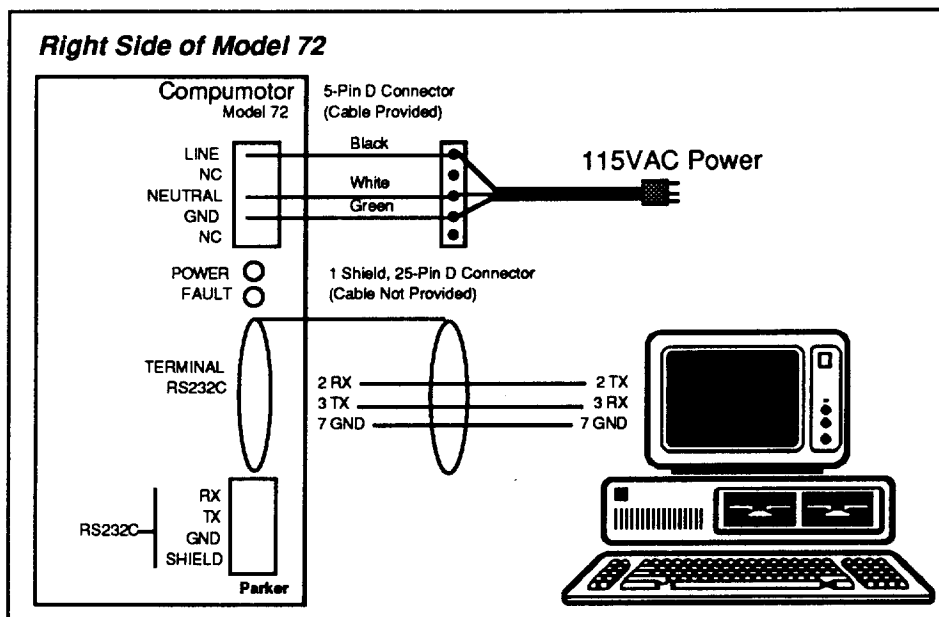

Figure 2-4. Basic Model 72 Wiring
Follow the steps below and refer to Figure 2-4 to properly connect the Model 72 and your terminal.
Use a 25-pin D connector (cable not provided in the ship kit) to connect the Model 72 to a terminal. You may also connect the Model 72 to a computer's RS-232C port if you run a terminal emulation program (converts a computer to a terminal). Refer to Figure 2-4. Your terminal or computer's parameters should be set as follows:
Connect the 5-pin D power connector (cable provided in ship kit) to the Model 72. Plug the other end of the cable into a 115VAC power supply. Refer to Figure 2-4. The POWER LED should be **green** and the FAULT LED should be **off**.
Use a 25-pin D connector to connect the Model 72 to the RS-232C port on your terminal or computer. *You did this before in Chapter 2, Getting Started. You must make this connection again now. If you need help, Refer to Figure 2-4.*
*Apply 115VAC power to the Model 72. You did this before in Chapter 2, Getting Started. You must make this connection again now. If you need help, Refer to Figure 2-4. Use the power cable (with a 5-pin phoenix connector) to connect the unit to the power source. Follow the instructions provided in Chapter 2 and refer to Figure 2-4 to make this connection properly. **The maximum recommended AC Power Cord length is 25'.***